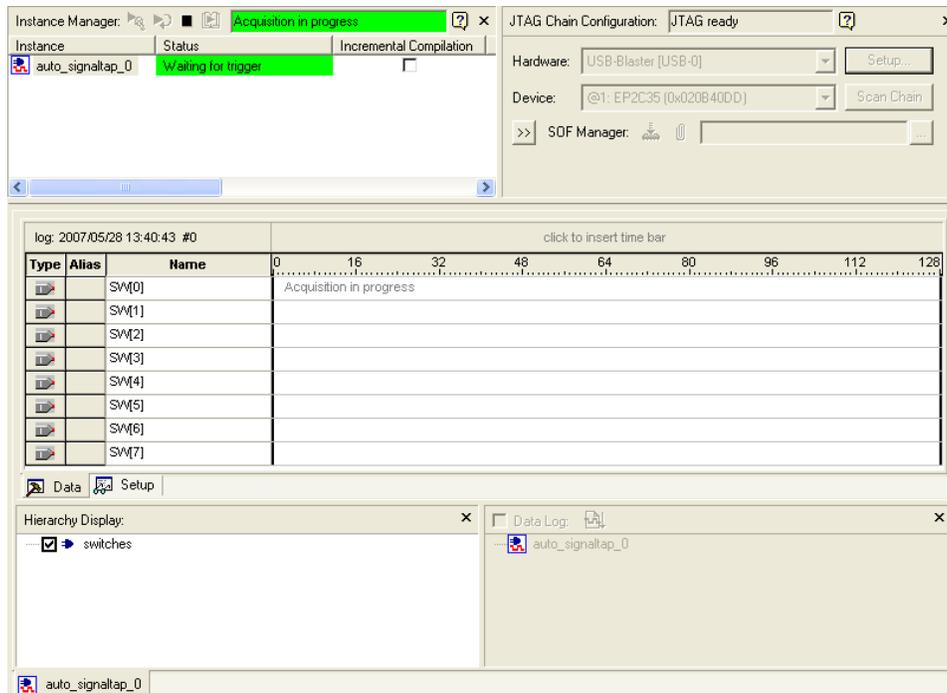

Figure 14. SignalTap II window after Run Analysis has been clicked.
2. Select **Processing > Run Analysis** or click the  icon in the SignalTap window. Then, click on the **Data** tab of the SignalTap II Window. You should get a screen similar to Figure 14. Note that the status column of the SignalTap II Instance window says "Waiting for trigger." This is because the trigger condition (Switch 0 being high) has not yet been met. (This is of course if Switch 0 is actually low as instructed in the previous step. If it is not, set it to low and then click **Run Analysis** again).